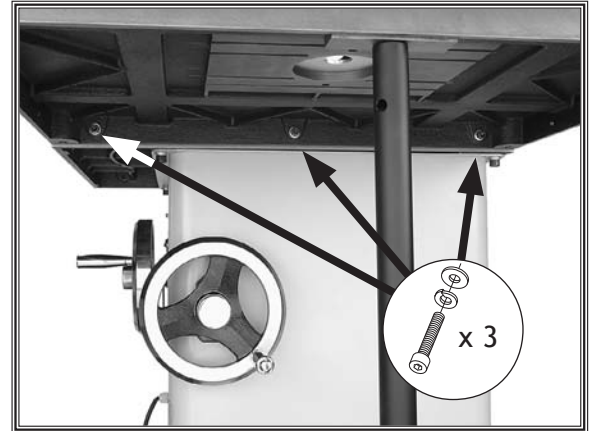

Figure 8. Router table attached to the table saw.
- With the help of another person to hold the table and leg assembly, align the mounting holes in both tables and secure them together with the (3) M8-1.25 x 30mm cap screws, (3) 8mm lock washers, and (3) 8mm flat washers, as shown in **Figure 8**.